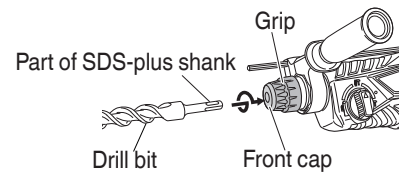

Fig. 2
6. Mounting the drill bit (Fig. 2)
- (1) Clean the shank portion of the drill bit.
- (2) Insert the drill bit in a twisting manner into the tool holder until it latches itself. (Fig. 2)